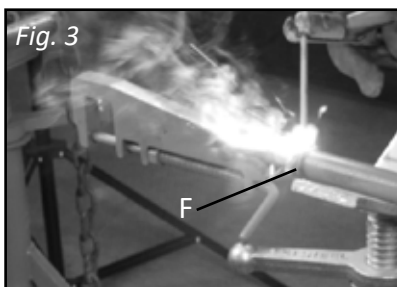

Fig. 3
3. Weld end of reach rod (*F*) to end of hook. (*E, Fig. 3*)